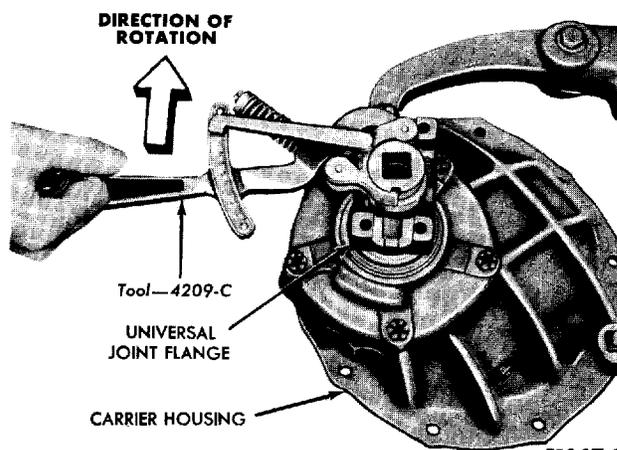

FIG. 31—Pinion Bearing Preload Check
10. Hold the flange (Fig. 9) and tighten the pinion shaft nut until the torque required to turn the pinion shaft is 8-12 in-lbs (used bearings) or 17-27 in-lbs (new bearings). As the pinion shaft nut is tightened, rotate the pinion shaft frequently to allow the bearing to seat. Check the bearing preload as shown in Fig. 31.